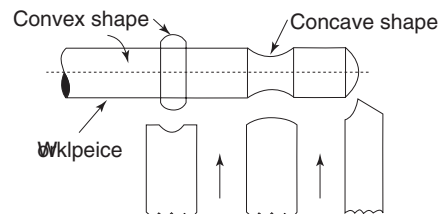

Fig. 1.36 Form turning
3. Forming The required profile is obtained by pressing a form tool against the surface of the rotating work piece. Forming can produce concave, convex or any irregular shape as shown in Fig. 1.36.